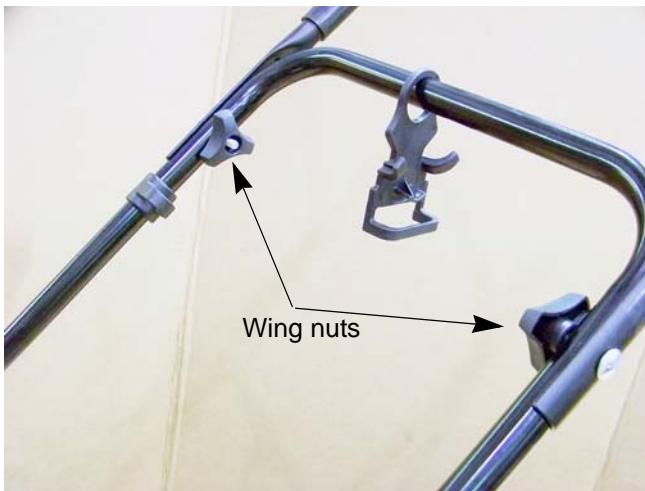

Figure 4.28
3. Remove the two wing nuts and carriage bolts. See Figure 4.28.